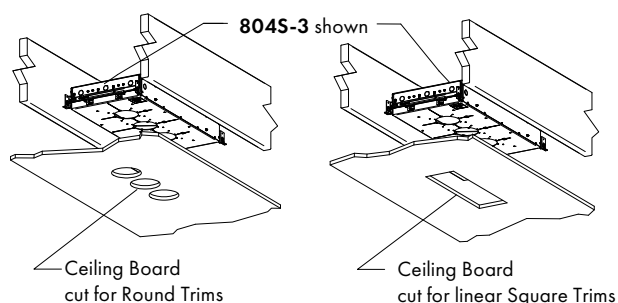

FIG 4.1 Install Ceiling Board
STEP 1 After making trim cutouts, install USG "Imperial" or equivalent ceiling board (drywall/sheetrock) and finish with one coat of USG sheetrock primer or equivalent - **FIG 4.1 & 4.2**.